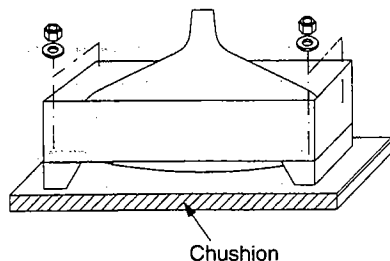

Fig. 6-1
8. Place a thick cushion or slab of foam rubber on the BASE and carefully lie the TV set on its face, taking care not to strike or scratch the face of the CRT. (Fig. 6-1)
9. Remove 4 CRT mounting Hex nuts and washers. (Fig. 6-1)